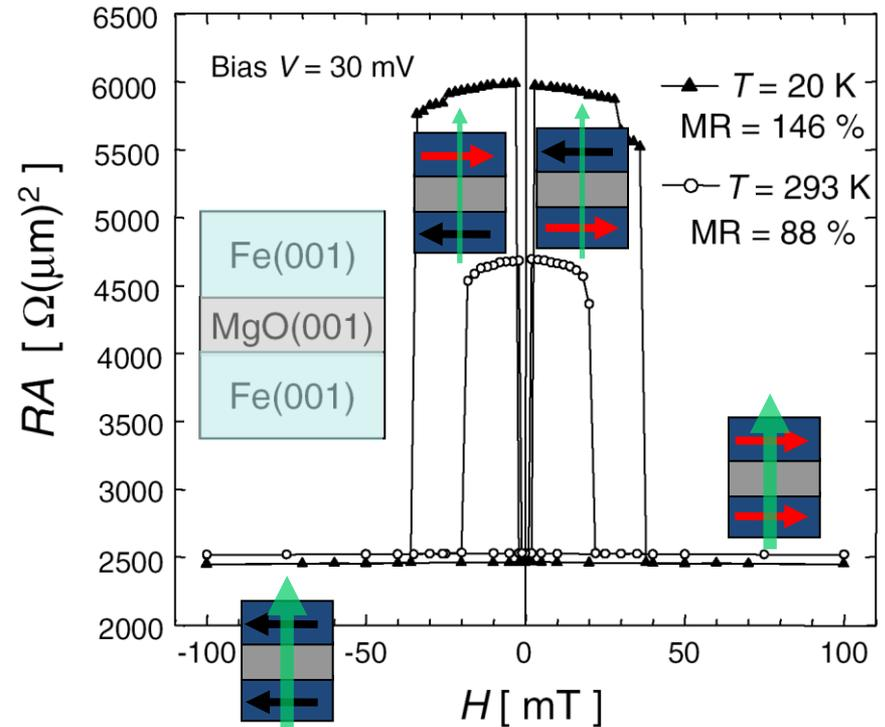

Fig. 3. Magnetoresistance curves for Fe(001)/MgO(001)(20 Å)/Fe(001) MTJ at  $T = 293$  and 20 K. The MR ratios were 88% and 146%, respectively.
FIG. 3. The ratio of orbital versus spin moment  $M_L/M_S$  as a function of film thickness  $d$ . The open circles give the theory taken from Table I. The full squares show the experiment. The solid line is a fit using Eq. (1) with the parameters given in the last row of Table I. Note that the fit was performed only for  $d \geq 3$  ML, corresponding to well-defined, epitaxial growth. The surface, interface, and bulk contributions used in Eq. (1) are schematically shown in the inset.
FIG. 3. Orbital magnetic moment of Co perpendicular to the film plane as determined from the MCXD and XAS spectra of Fig. 2 using the MCXD orbital sum rule. The solid curve represents a fit to the data based on the model shown in the inset. The dashed curve denotes an extrapolation for a supposed case of all fcc Co layers.